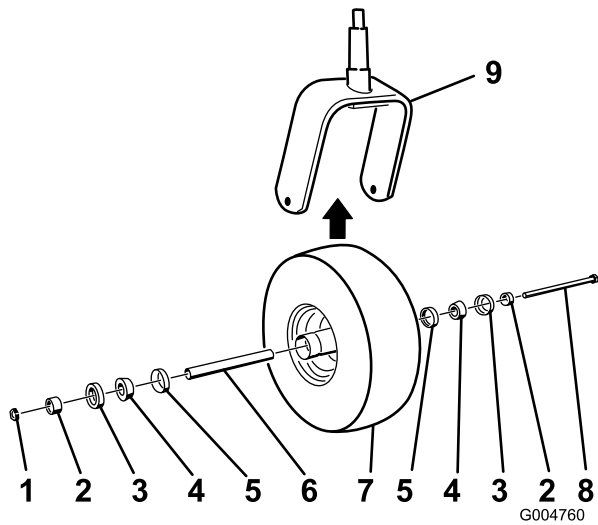

Figure 49
2. Remove the locknut from the bolt holding the castor wheel assembly between the castor fork (Figure 49).
5. Assemble the castor wheel by pushing the cone bearings and seals, packed with grease, into the wheel hub, positioned as shown in Figure 49.